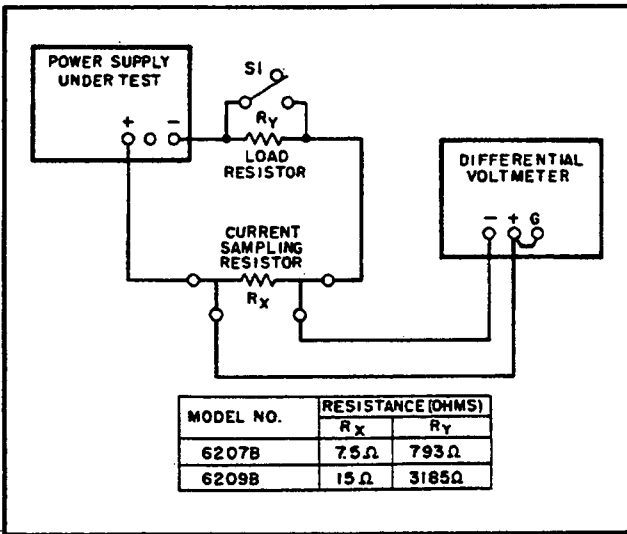

Figure 5-10. Output Current, Test Setup
- Connect test setup shown in Figure 5-10, leaving switch S1 open.
- Connect test setup shown in Figure 5-10.
- Utilize test setup shown in Figure 5-10, leaving switch S1 open throughout test.
b. Connect appropriate load resistor, given in Figure 5-10, across (+) and (-) output terminals.